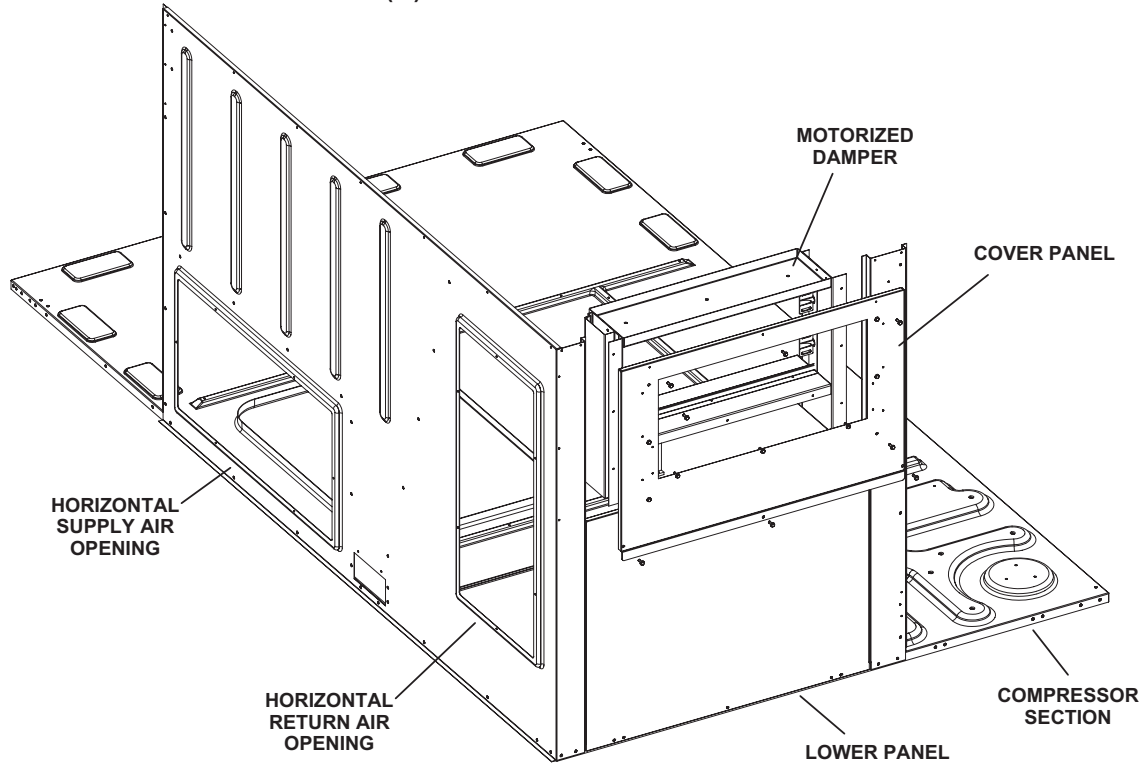
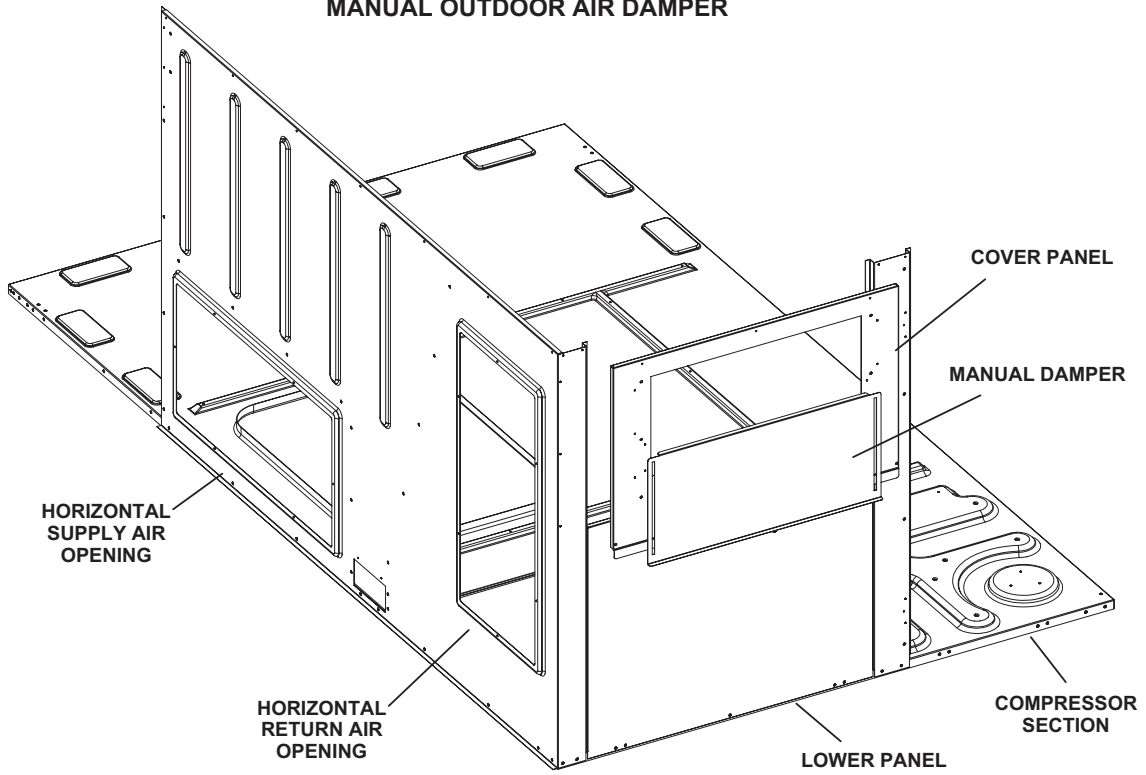

FIGURE 29
FIGURE 30
LAOAD(M) consists of a set of dampers which may be manually or motor (M) operated to allow up to 25 percent outside air into the system at all times (see FIGURE 29 or FIGURE 30). Either air damper can be installed in LGT units. Washable filter supplied with the outdoor air dampers can be cleaned with water and a mild detergent. It should be sprayed with Filter Handicoater when dry prior to re-installation.